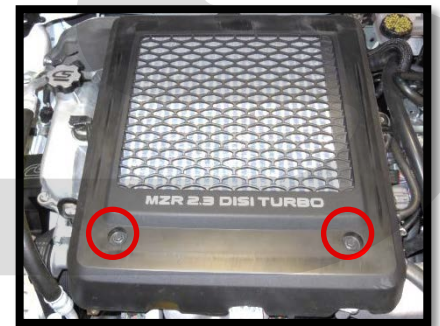

Figure 1b
- b) Remove the two 10mm bolts fastening intercooler shroud to the intercooler. Push the shroud towards the firewall to unhook it and remove it from the vehicle (red circles in Figure 1b).
- b) **Remove the swirl vane controller box** (red circles in Figure 1b) with an 8mm socket, then disconnect the electrical circuit (green arrow) and lay the box on top of the engine.